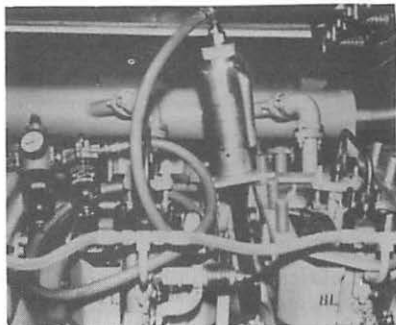

FIG. 3
4. Remove the four cylinder-mounting bolts, using power-wrench arrangement (Part 147X1568) as shown in Fig. 3, or an impact wrench (Part 147X1684).